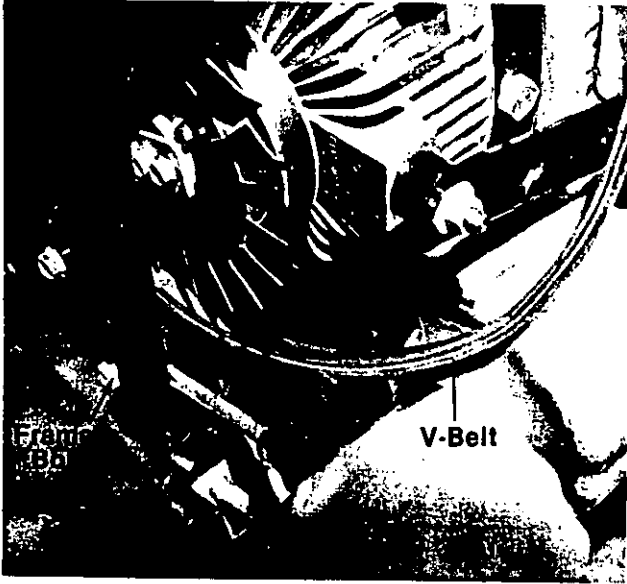

FIGURE 25.
- Loosen the frame bolt holding the rear axle bracket to the frame. See figure 25.